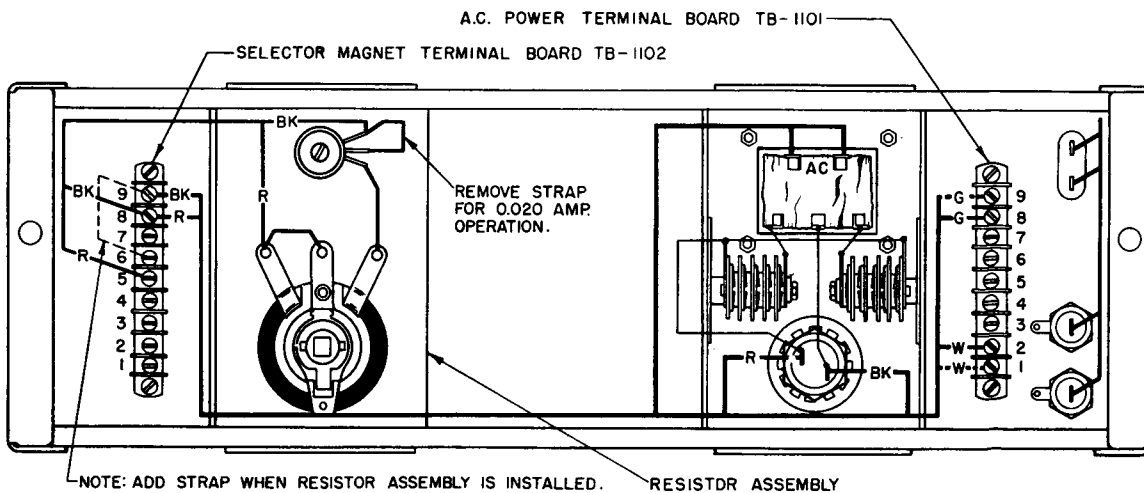
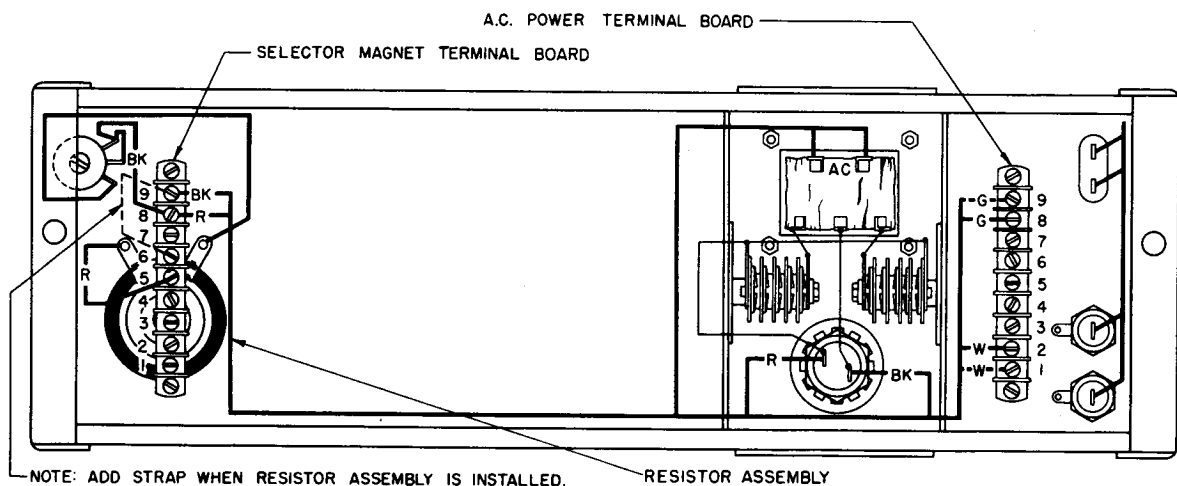
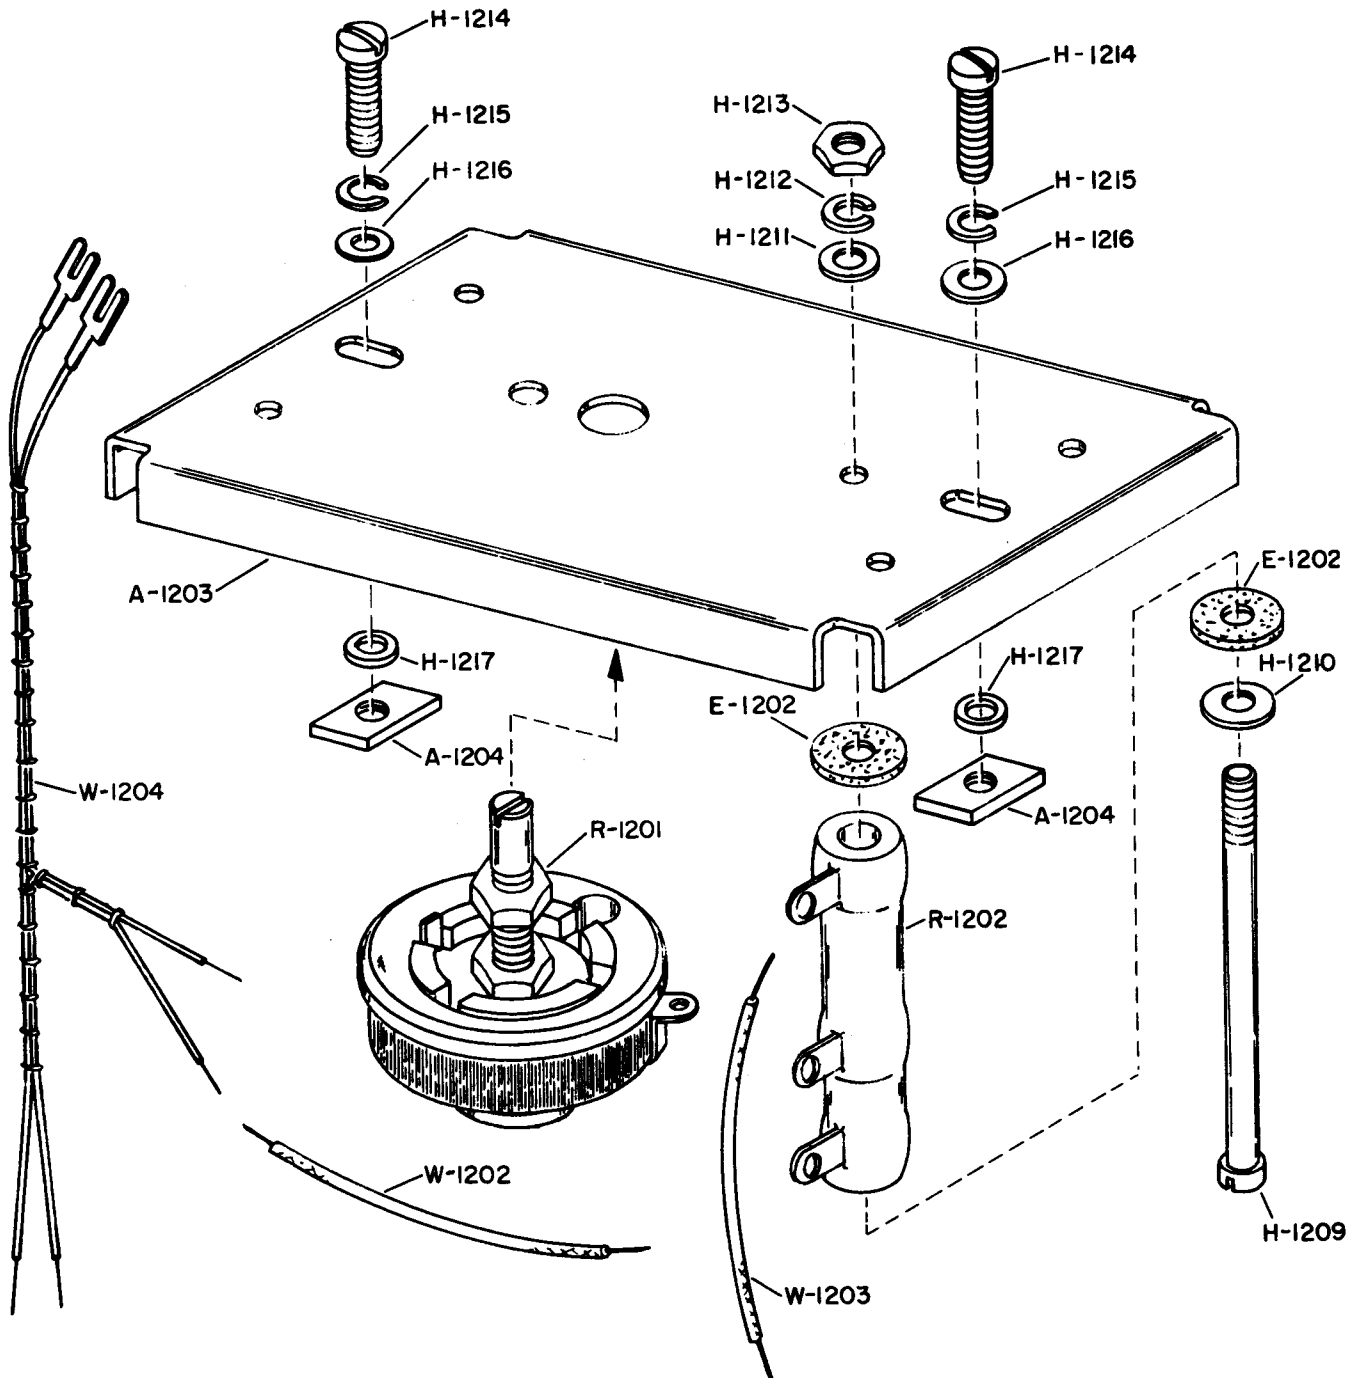
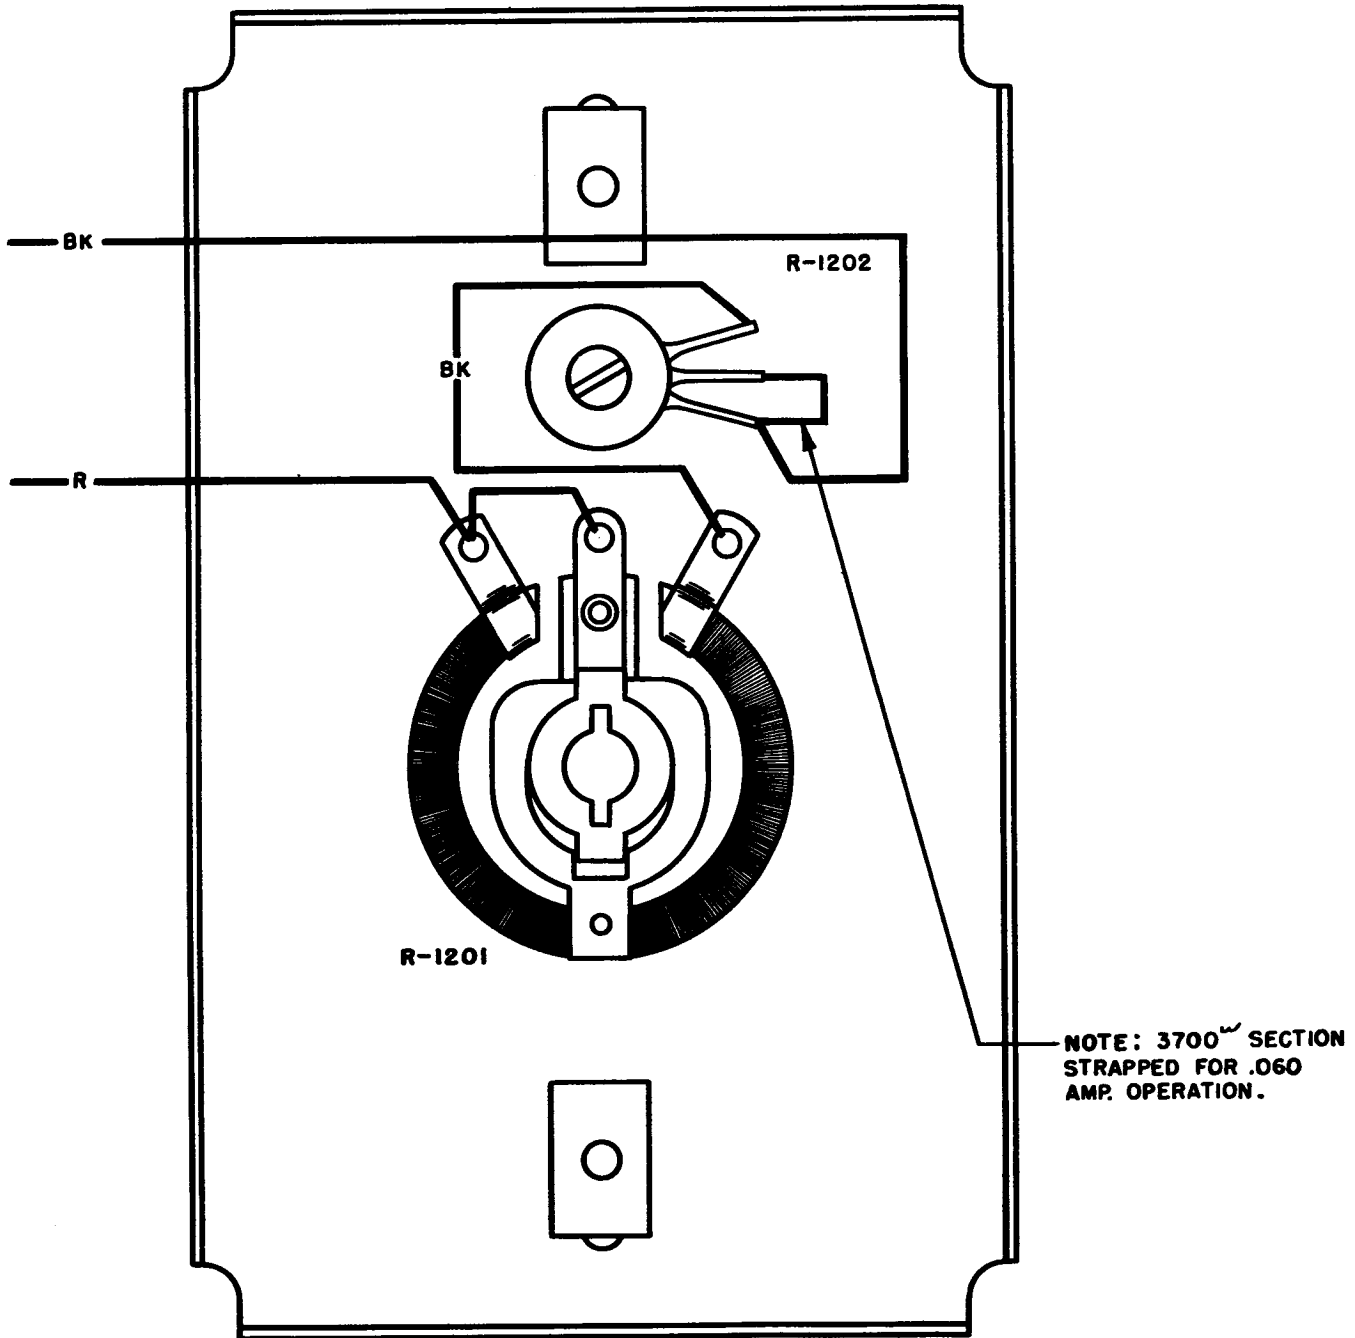

Figure 3-3. Power Distribution Panel, SB-154A/UG with Rectifier and Resistor Assemblies
Figure 3-4. Power Distribution Panel, SB-408/UG with Rectifier and Resistor Assemblies
Figure 4-6. Resistor Assembly, Parts Location
Figure 4-8. Wiring Diagram, Resistor Assembly
The associated loop circuit resistor assembly is arranged for mounting adjacent to the line shunt relay. The attached cable is formed to the left for connection to the same terminal board as the rectifier. Complete the connection to the loop circuit as shown in figures 3-1 and 3-2 for TT-47/UG, TT-48/UG, TT-69/UG and TT-70/UG Teletypewriter, figure 3-3 for TT-47A/UG, TT-48A/UG, TT-69A/UG, and TT-70A/UG Teletypewriter and figure 3-4 for the TT-176/UG Teletypewriter.
Refer to Navships Instruction Book 91393, (figure 7-111) for the identification of parts not described in figure 3-1 or Navships 91713, (figure 7-113) for parts not described in figure 3-3.
When the loop circuit resistor assembly is to be installed on the SB-408/UG power distribution panel, remove the R-1201 rheostat and the R-1202 resistor from the A-1203 plate (figure 4-6) and reassemble the components on the plate provided at the extreme left end of the panel, figure 3-4. Make sure that the non-turn device engages the hole in the plate and that the wires are not damaged in transferring the components.
On the TT-47A/UG, TT-48A/UG, TT-69A/UG, and TT-70A/UG equipments, with the AC power terminal board (TB-1101) and the selector magnet terminal board (TB-1102 figure 7-113, Navships 91713), the cable is connected in accordance with figure 3-3. Disregard the orange and blue leads which are taped at the ends and folded in the cable.
(2) The rectifier connection for continuous operation on the units equipped with the selector magnet terminal board and the AC power terminal board are arranged in accordance with figure 3-3. AC power is provided at terminals No. 1 and No. 9 on the AC terminal board TB-1101 (TT-47A/UG, TT-48A/UG, TT-69A/UG, and TT-70A/UG) to connect the input leads of the rectifier for continuous operation. Disregard the orange and blue leads that are taped in the rectifier cable. Attach the white lead to terminal No. 1 and the green lead to terminal No. 9 on TB-1101.
ing. When the replacement rheostat is installed, make sure that the non-turn device engages the hole in the plate (figure 4-6). Connect the strap and cable in accordance with figure 4-8.
(2) Fixed Resistor Replacement.—Attach the strap across the 3700 ohm section of the resistor for 60 MA application; mount resistor by the screw through the center (figure 4-6). Wire in accordance with figure 4-8.